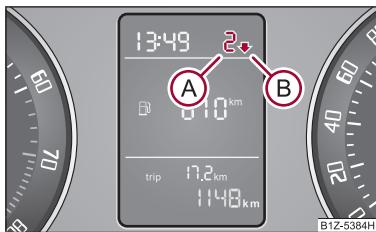

Fig. 17 Recommended gear
An information for the selected gear (A) ⇒ fig. 17 is shown in the display of the instrument cluster.